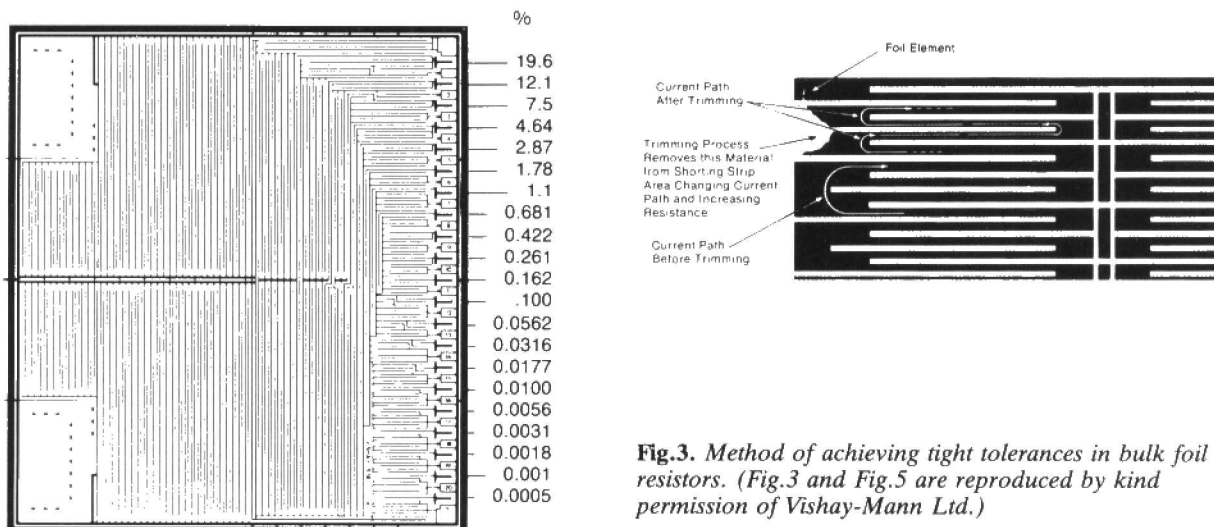

Fig.3. Method of achieving tight tolerances in bulk foil resistors. (Fig.3 and Fig.5 are reproduced by kind permission of Vishay-Mann Ltd.)
- Very tight resistance tolerance is achieved by trimming various adjusting points that have been designed into the photoetched pattern of the resistive element. Trimming the pattern at one of these points will force the current to seek a longer path, thereby raising the resistance value by a specific percentage (Fig.3).